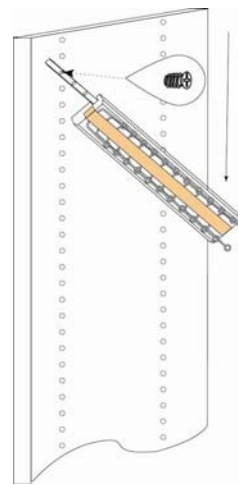

Fig. 1
1. Pull out ball bearing, slide a few inches, and attach it to the partition's front hole location with a Euro screw. (See Fig. 1.)